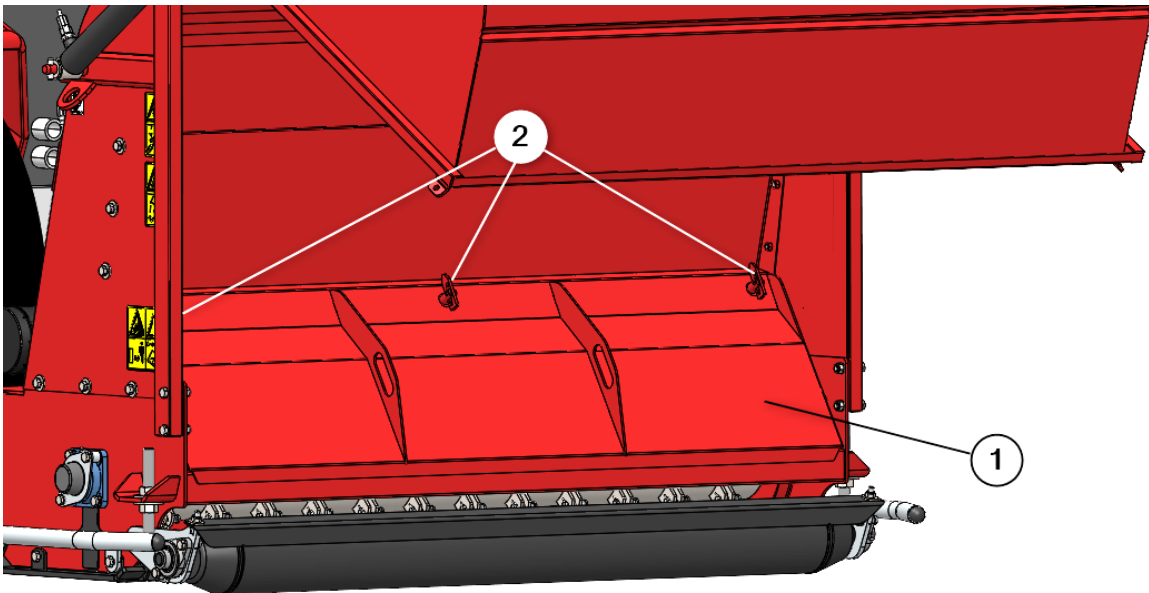

Fig. 10
5. Enter the hopper area and remove the maintenance cover (1) by unlocking the latches (2), (Fig. 10).
11. When finished, close the maintenance cover (1) and lock the latches (2), (*Fig. 10*).